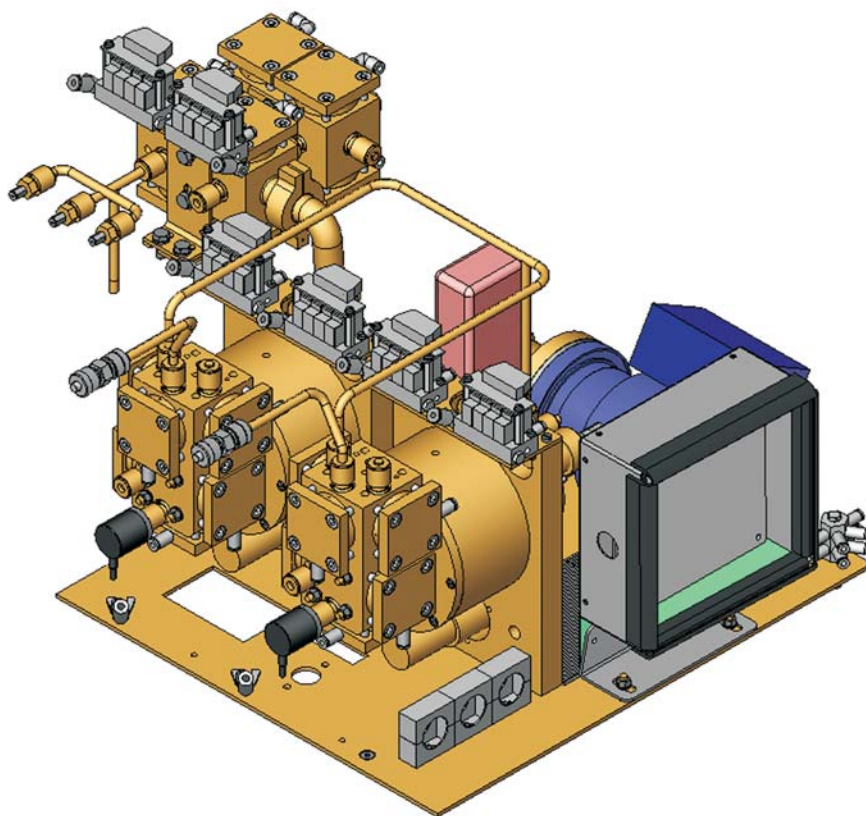
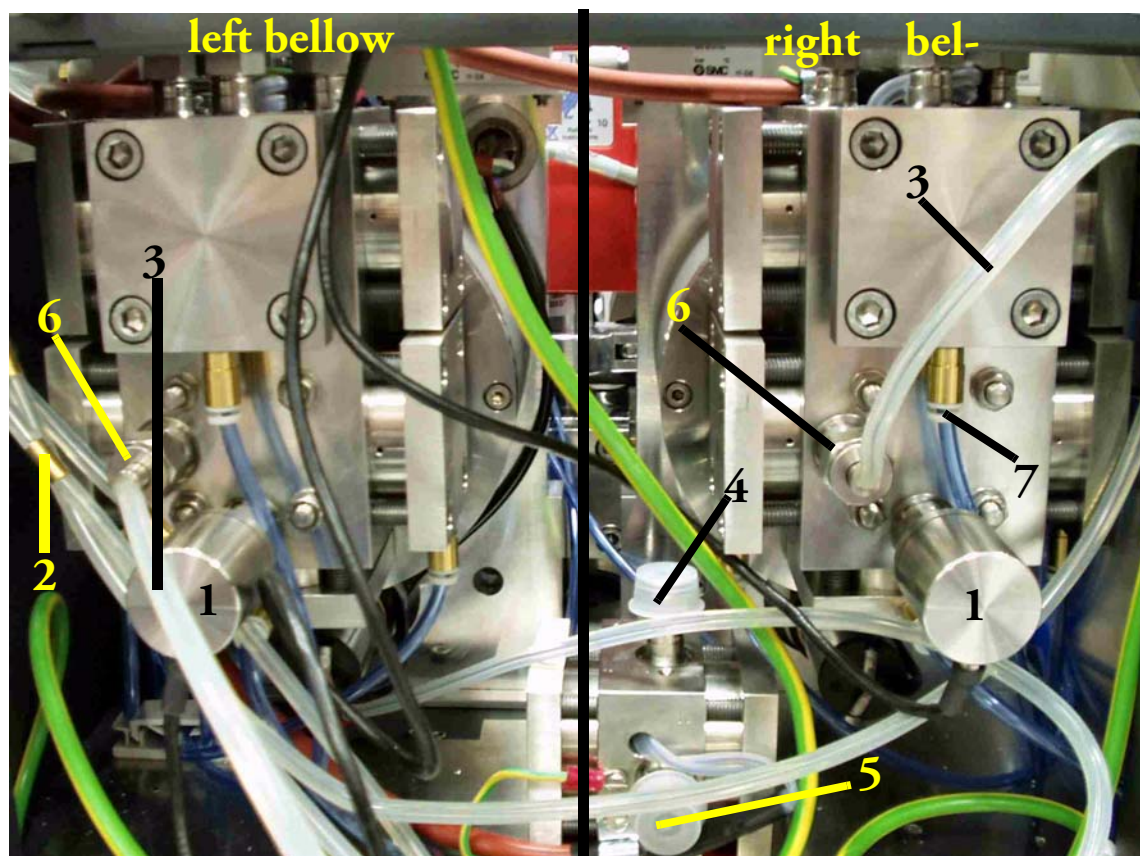

Figure 4-1. Schematic of Dual Inlet System - Dismantled
Figure 4-2. Dual Inlet System - Front View (behind Upper Door)
Compared to earlier versions, the Dual Inlet system has been modified in some respects. Besides the monolithic construction, its dimensions have been reduced. Figure 4-1 displays a schematic, whereas Figure 4-2 shows its location within the system.
* See Figure 4-2 and Figure 6-29.